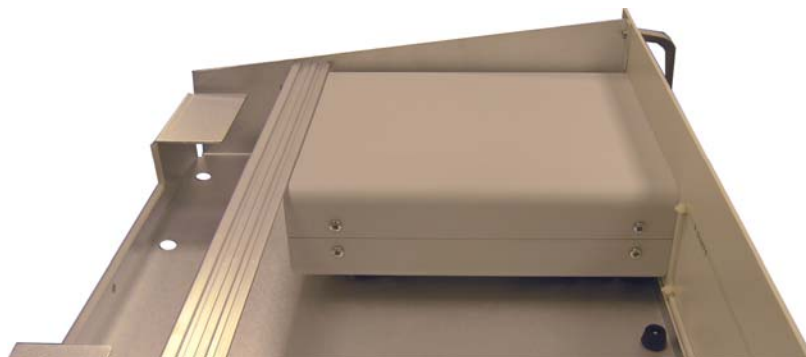

Figure 5, Rack Assembled with one Instrument
- g) Take the tie-bar and its two fixing screws removed in section b) above and refit them in position, noting the orientation. The stepped lip of the front edge of the tie bar should sit snugly on the rear upper edge of each instrument case, retaining it both vertically and horizontally (figure 5).